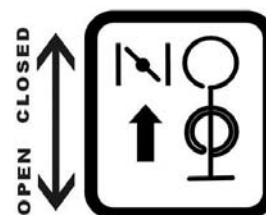

Figure 7- Choke in the “closed” position (refer to choke location)
4. Move the choke lever to the "closed" position (see figure 7).